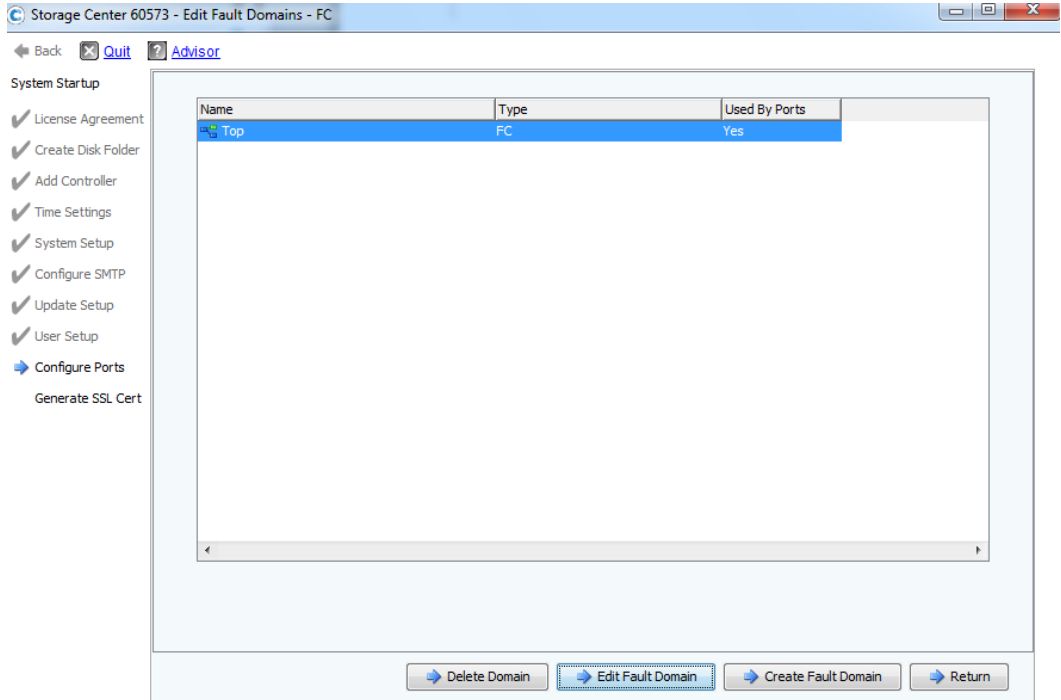

Figure 24. Create fault domain
7. Click **Create Fault Domain**, as shown in Figure 24.